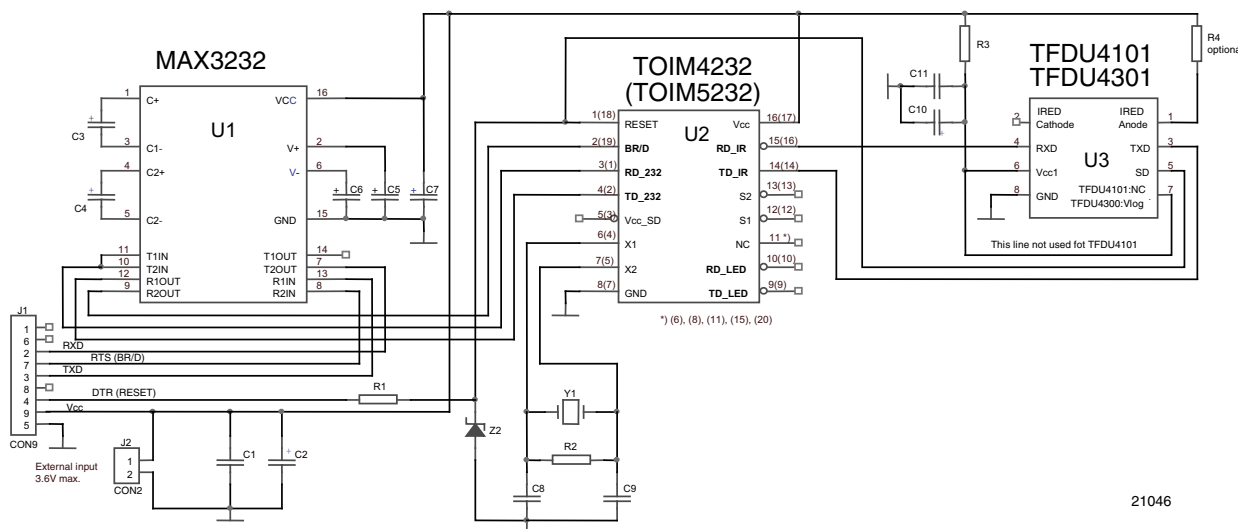

Fig. 1 - Circuit Diagram of the Demo Board
Operation and programming of the TOIM4232 and TOIM5232 interface devices are described below. Figure 1 shows the basic circuit design with 3 blocks: the RS232 to 3 V logic level shifter, the encoder/decoder (endec) circuit and the transceiver to build a dongle for RS232 IrDA
Therefore, an add-on to the circuit shown in figure 1 was generated to suppress the echo from the receiver during transmission. This modification is shown in figure 10.
*) For TOIM5232 pinning, see figure 1.